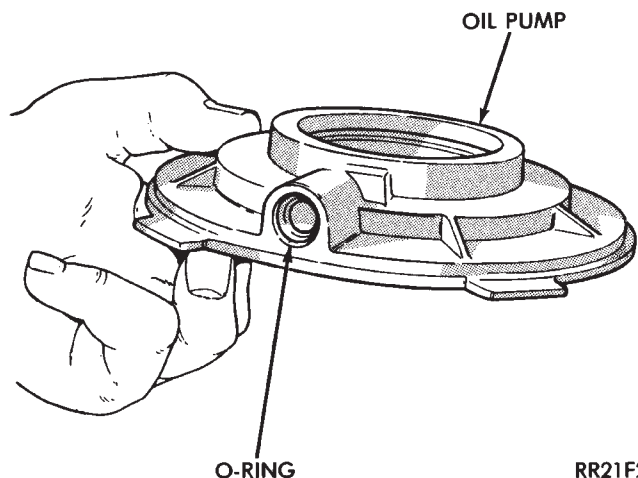
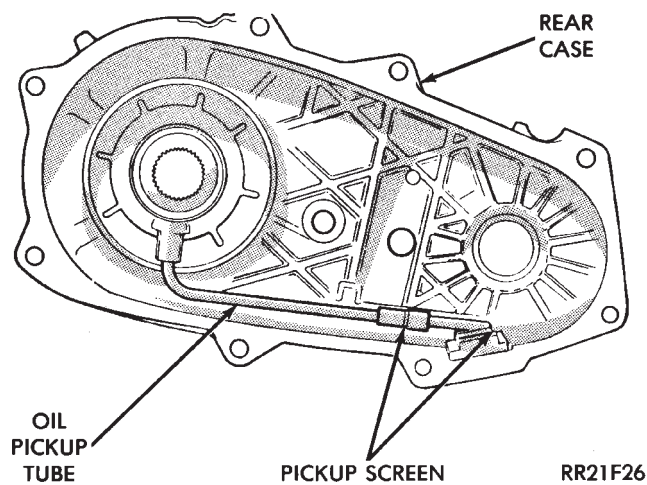

Fig. 65 Pickup Tube O-Ring Installation
Fig. 66 Pickup Tube, Oil Screen And Pump Installation
(2) Install new pickup tube O-ring in oil pump (Fig 65).
(3) Prime oil pump by pouring transmission fluid into pump through pickup tube opening
(4) Insert pickup tube in oil pump. Then attach oil screen and connecting hose to pickup tube (Fig 66).
(5) Install assembled pump, pickup tube and screen in rear case. Be sure screen is seated in case slot as shown (Fig 66).
(6) Install magnet in front case pocket.